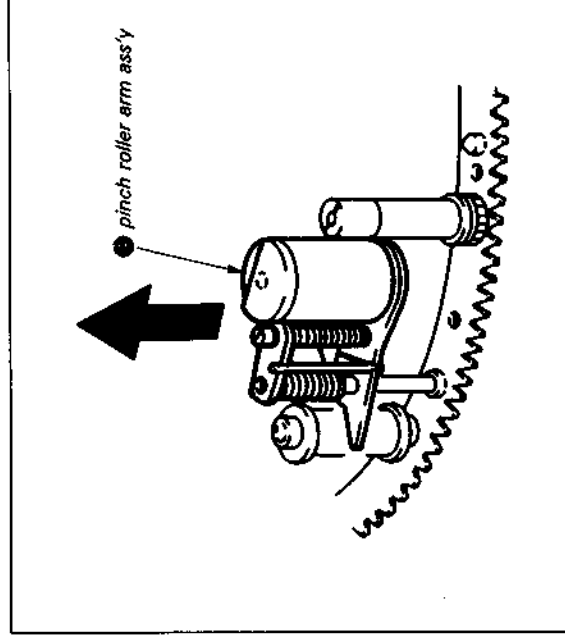

Fig. 7-17.
- 5) Remove pinch roller arm assembly ● in the direction of arrow. (See Fig. 7-17.)